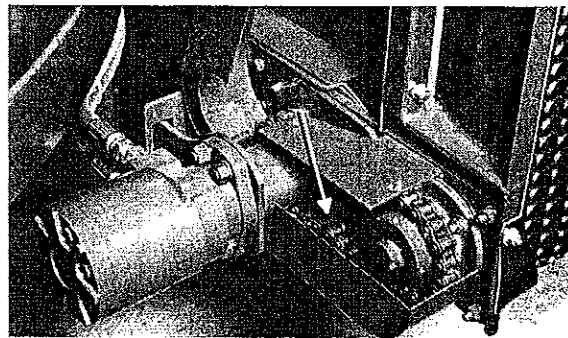

Figure 28. Discharge Conveyor Extension Drive.
**Conveyer Extension Roller Chain** - The roller chain is located at the discharge conveyer extension joint and is used to drive the discharge conveyer extension belt (if equipped). See Figure 28. Lubricate the roller chain every 20-25 hours of operation with the discharge conveyer extension in the up (road) position. Apply chain lubricant or clean SAE engine oil to the inside of the lower strand of the chain as shown in Figure 28. Rotate drive between applications until the total length has been lubricated.